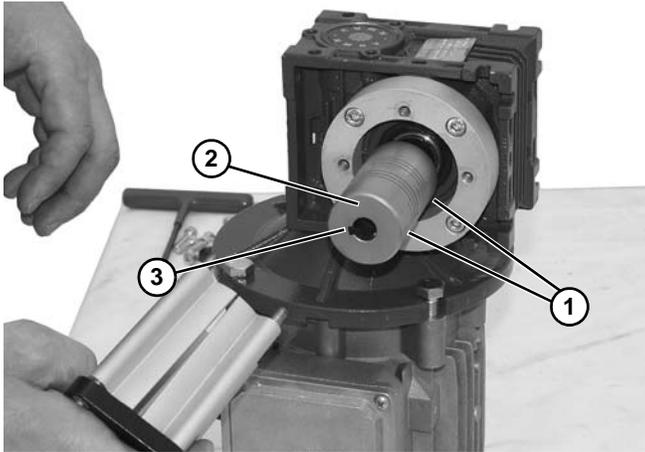

Figure 27
- Loosen two (2) set screws (**Figure 27, item 1**) and detach coupling (**Figure 27, item 2**) from gear reducer.
- Remove gear reducer output shaft key (**Figure 27, item 3**).
10. Attach coupling (Figure 27, item 2) to gear reducer shaft. Tighten two set screws (Figure 27, item 1) to 32 in-lb (3.7 Nm).
6. With output shaft key (**Figure 27, item 3**) in keyway, attach coupling (**Figure 27, item 2**) to gear reducer shaft. Tighten two set screws (**Figure 27, item 1**) to 32 in-lb (3.7 Nm).